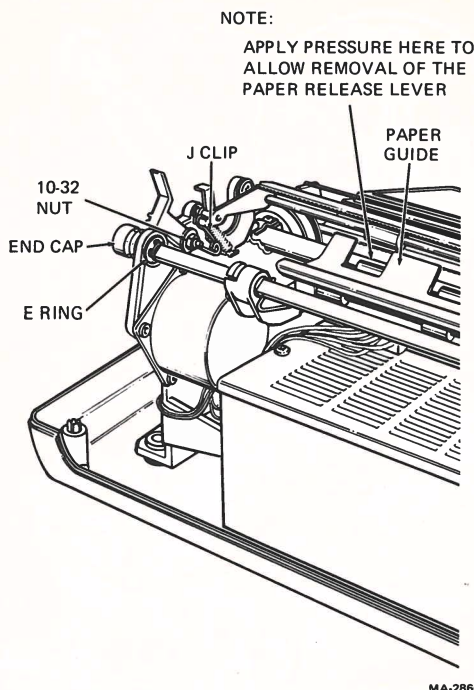

Figure 2-7 Friction Assembly Removal
2. Lift the bail bar to gain access to the paper guide. Lift the paper guide straight out (Figure 2-7).
3. Remove the J-clip that secures the paper release lever to the bail bar assembly (Figure 2-7).
4. Remove the (10-32) nut that secures the paper release lever to the right side plate (Figure 2-7).
6. With a blade screwdriver, remove the E-ring that secures the friction assembly end cap to the right side plate (Figure 2-7).
7. Remove the end cap from the friction assembly (right side plate) (Figure 2-7).